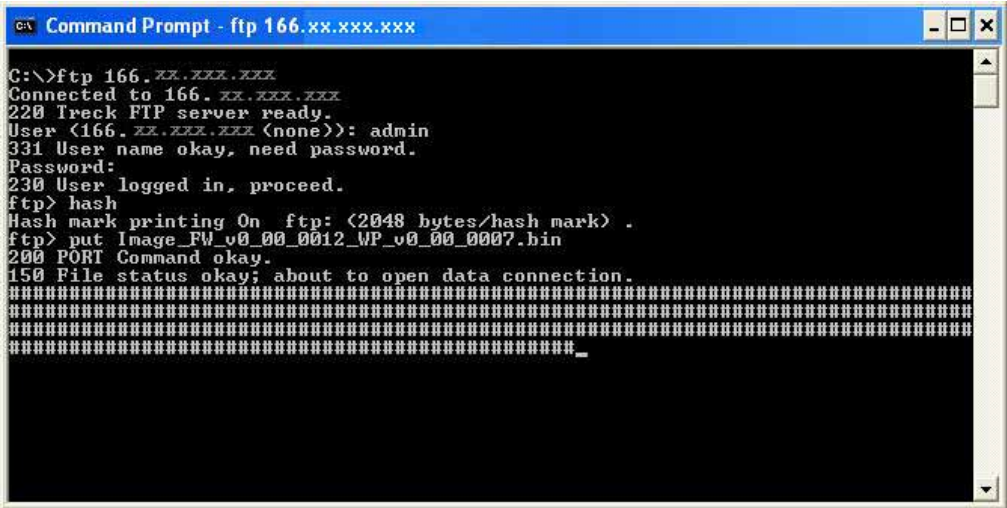

Figure 80. Launching the Upgrade
3. Open an MS-DOS command line window and connect to the communications module in FTP mode (see Figure 80):
4. At the **ftp>** command line, use the **put** command with the **Image<xxx>.bin** file to launch the upgrade (see Figure 80).